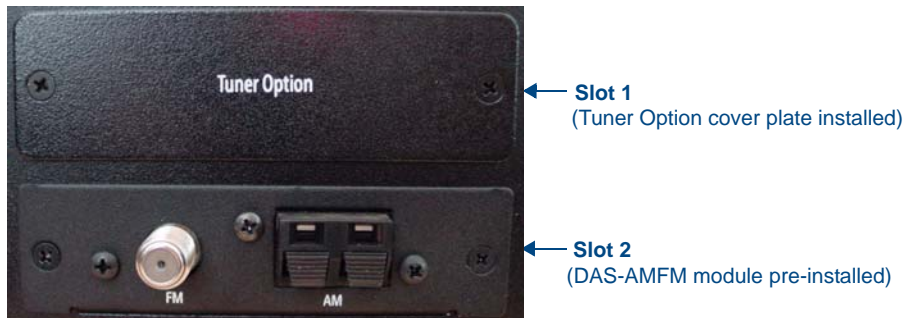

FIG. 65 Rear Panel - Tuner Slots 1 and 2
2. With the back of the unit facing you, remove the screws from the Tuner Option cover plate at the right top corner of the rear panel (FIG. 65) and remove the plate. Retain the screws, as they will be used to install the tuner module.
- Remove the cover plate (labelled “Tuner Option”) on the rear panel (FIG. 65) to expose Slot 1.